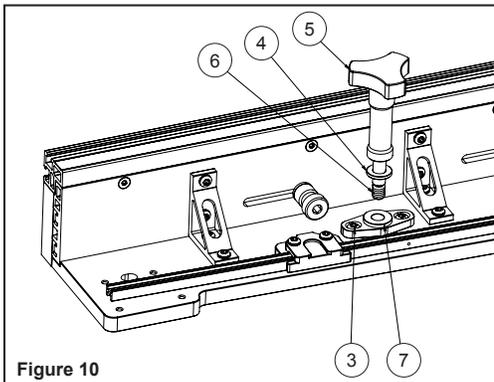

Figure 10
- b. Move the knob mount (part #7) to the pre-drilled holes in the base (part #14). **See figure 10.**